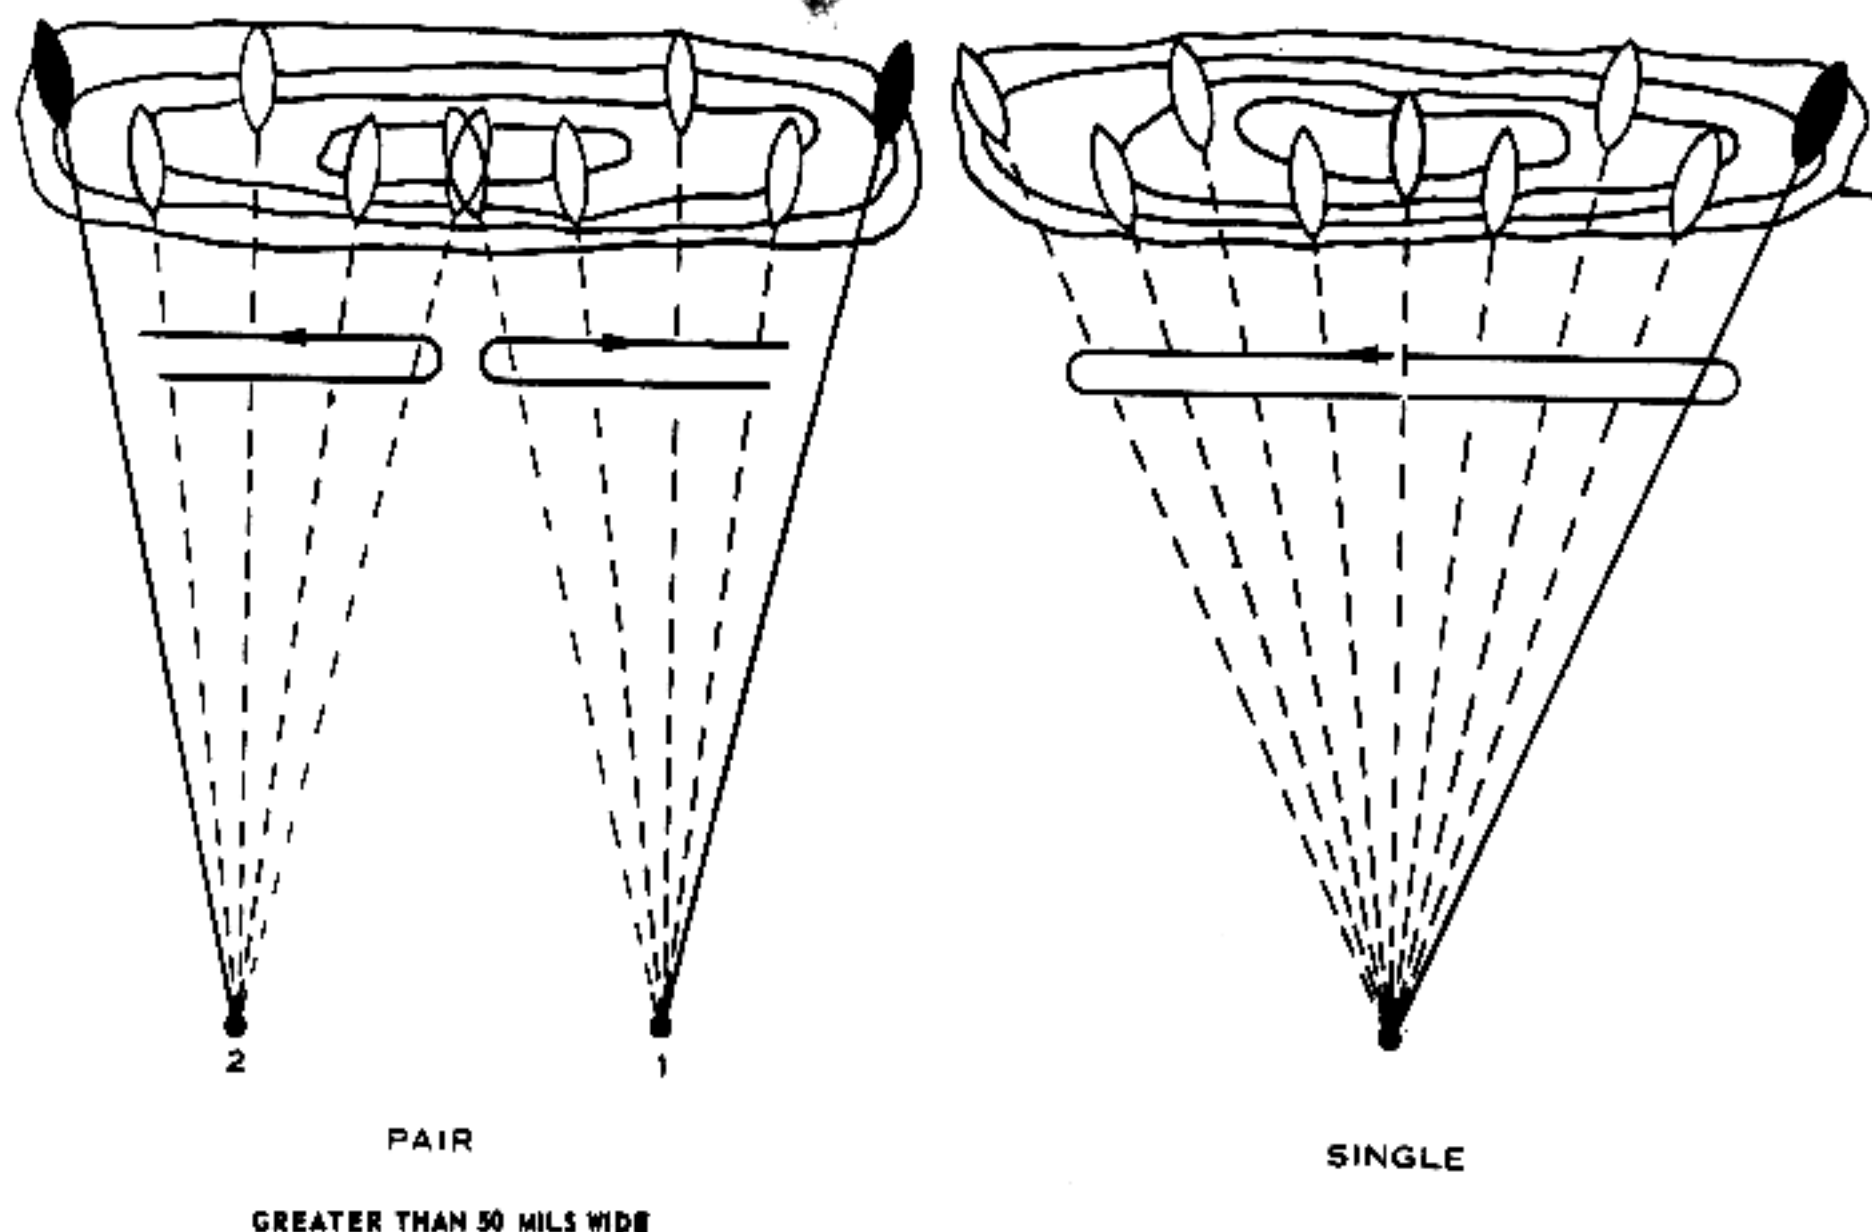

Figure 140. Engagement of area targets (objective).
(1) The target is divided at the center of mass; the right gun (No. 1) fires on the right half and the left gun (No. 2) fires on the left half. The point of initial lay and adjustment for both guns is on the center of mass.
(2) After adjusting on the center of mass, fire is distributed by determining the size of the beaten zones and applying direction and elevation changes that cause the most effective coverage of the target area. Both guns traverse and search their respective halves to the flanks, then return to the midpoint.
b. *One Gun.* A single gunner engages an area target by laying and adjusting on the center of mass, traversing and searching to either flank, then, reversing the direction, traversing and searching to the other flank (fig 140).